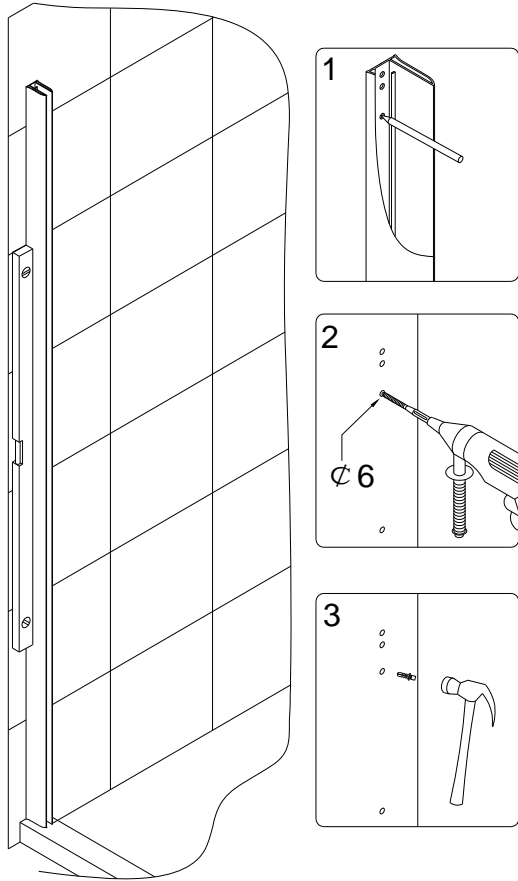

Fig 1
1. Locate the **Wall profile for glass door (1)** and place it vertically against the finished wall. Adjust the profile using a level. Use predrilled holes in the aluminum profile to mark holes for drilling. Now drill holes in the wall and insert the **Wall anchor (12)** into the hole. See Fig 1 for details.